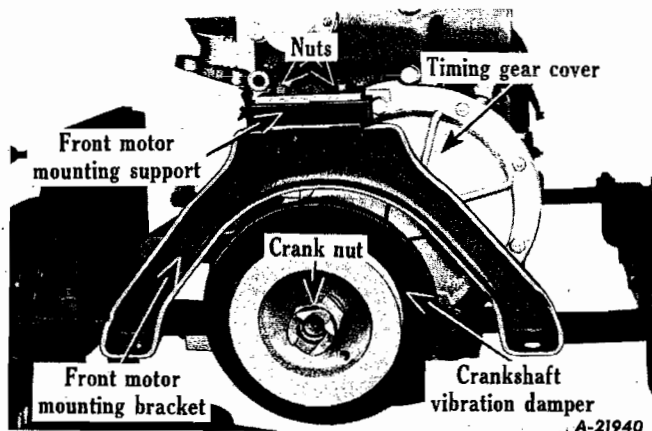
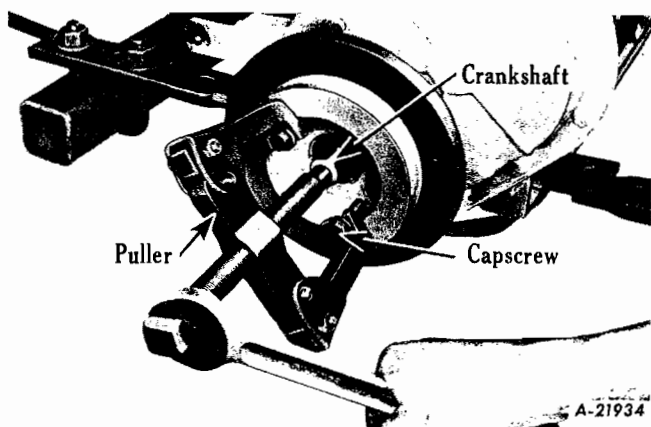

Fig. 20
Fig. 21
1. Remove front motor to frame bracket by removing two nuts on top side (Fig. 20). Remove fan drive pulley nut and washer from end of crankshaft. Install puller and remove crankshaft fan drive pulley from crankshaft (Fig. 21). Remove 4 capscrews holding motor mounting bracket to block (Fig. 22).